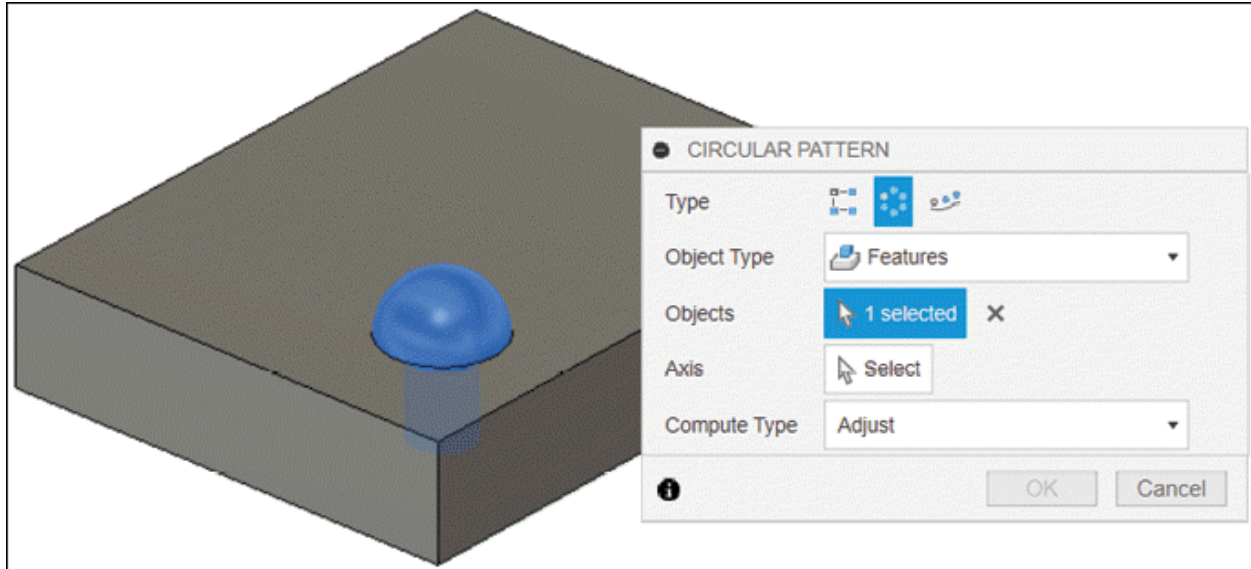

Figure-95. Selection of body for circular pattern
- **Objects** selection is active by default. Select the feature to be patterned; refer to Figure-95.